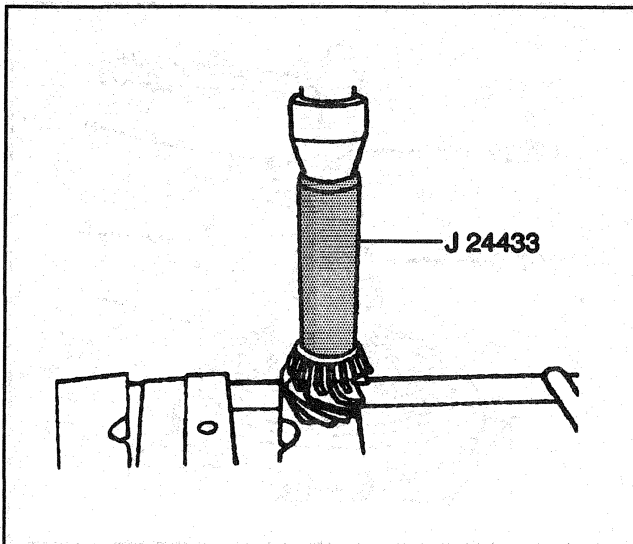

Figure 9—Installing the Inner Pinion Bearing
- Press the bearing onto the pinion using J 24433 (Figure 9).